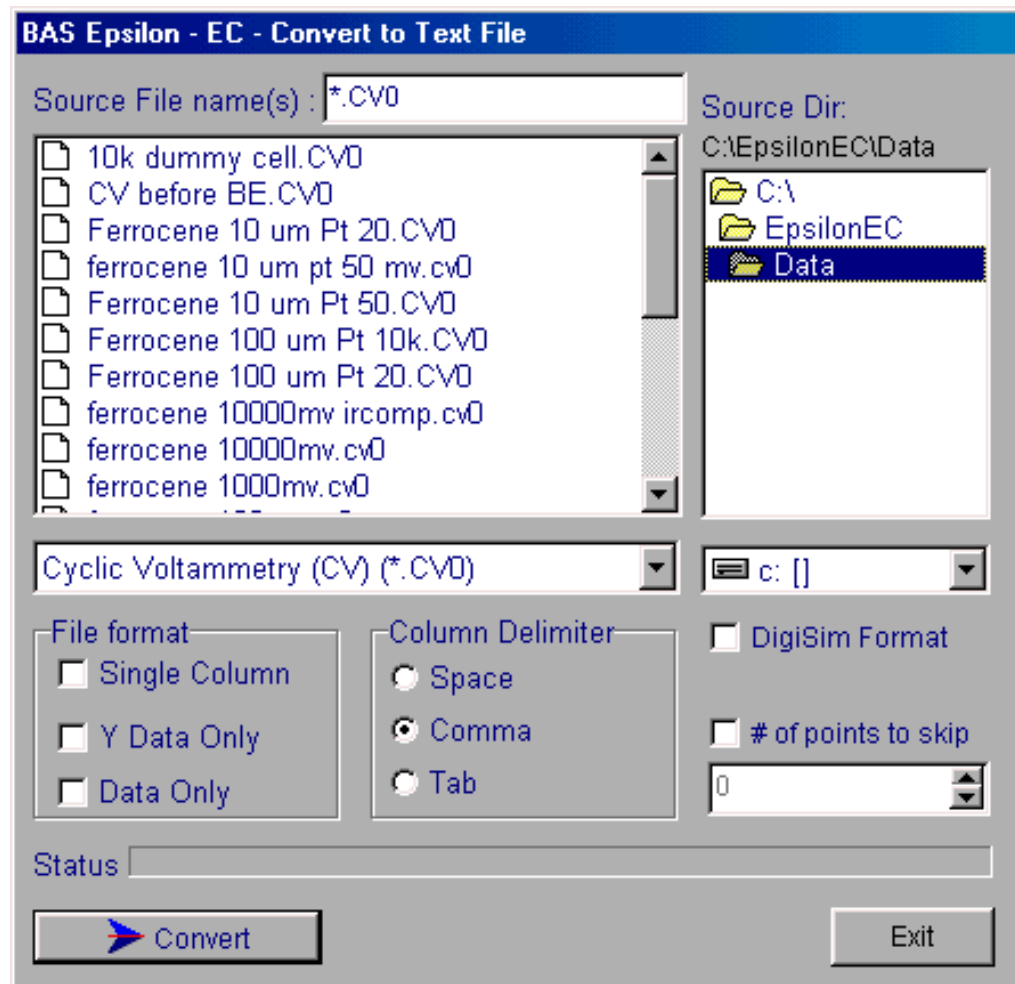

Figure 7. Convert to Text dialog box.
- Use **Save** in the **File** menu (or the **F4** key) to save the data in the active experiment window (it should be noted that the each technique has its own extension; for example, .cv0 for cyclic voltammetry). The data is saved in a binary format, but, once saved, it can be converted to a number of different text formats using **Convert to Text File** in the **File** menu (**Figure 7**). Select the file(s) to be converted, the format, and the delimiter, and then click **Convert** to start the conversion.